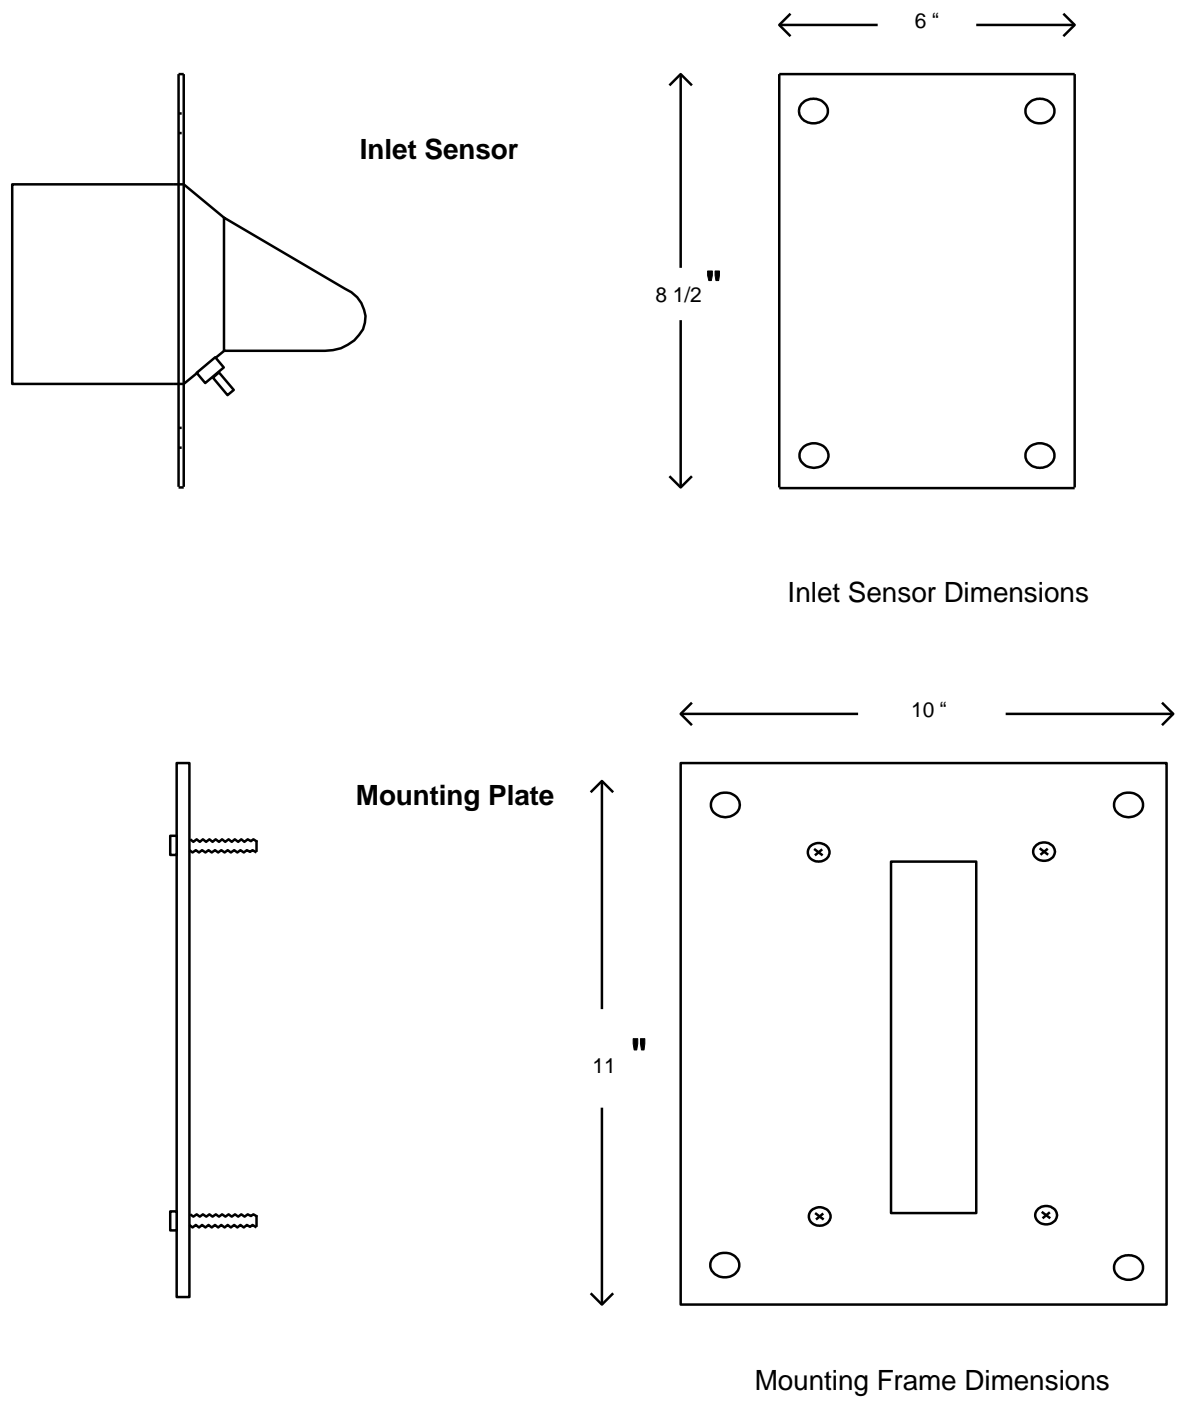

Figure 6 - Sensor and mounting plate dimensions
2. Cut an opening through the side of the garner bin the same size or slightly larger than the opening in the mounting plate (Figure 6 - Sensor and mounting plate dimensions) making sure that the completed installation will be level.